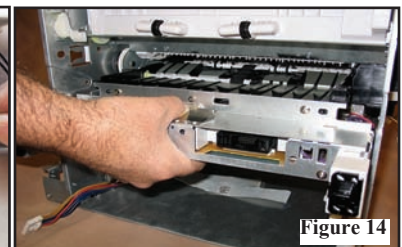

Figure 14 - Pull up and out on the power supply to remove.
10. You are now ready to pull out the power supply as shown in Figure 14. The power supply will not slide out unless you lift it up slightly and pull back.